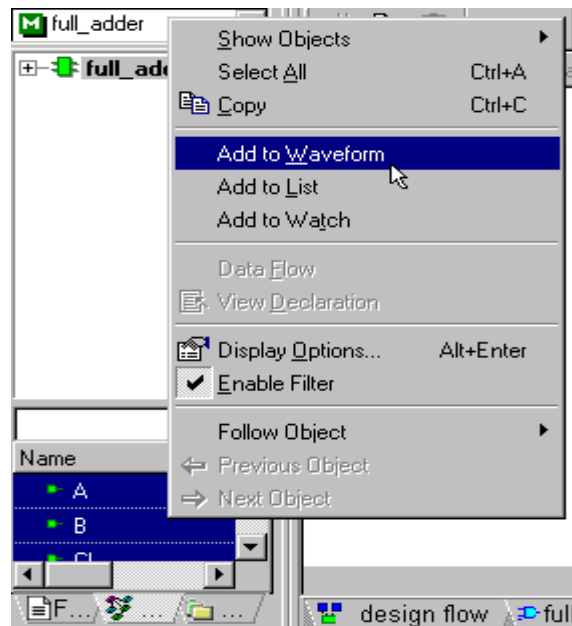

Figure 32
8. Add the signals to the waveform by dragging the signals one by one into the left side of the waveform. A faster method of adding signals to the waveform is to select the signals using the Shift or Ctrl keys. Now you may drag them as described above into the waveform. You can also right-click on a selected signal, and click the Add to waveform option in the pop-up menu as shown in Figure 32.